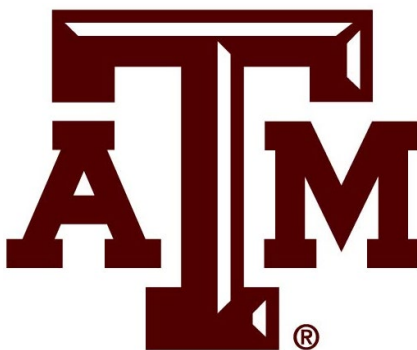

Figure 1: TAMU logo
1. Open SolidWorks, and create a new part as the logo of TAMU in Fig. 1. Then save this file as the .stl format.